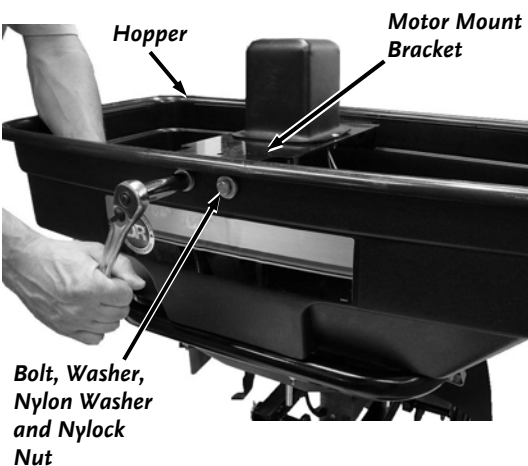

Figure 10
11. Line up the Motor Mount Bracket with holes in Hopper. Secure Motor Mount Bracket to Hopper with two 5/16-18 x 1" Hex Bolts, two 5/16" Washers, two Nylon Washers (against outside of Hopper) and two 5/16" Nylon Locknuts (1/2" Wrench) (**Figure 10**).